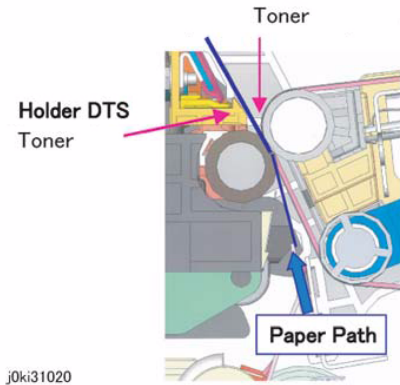
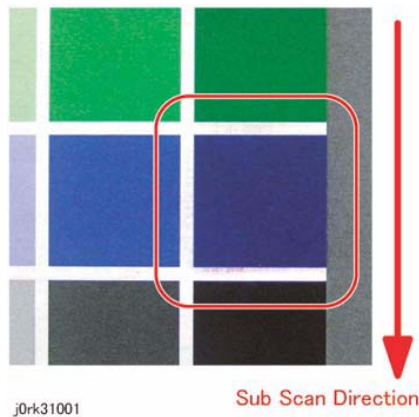
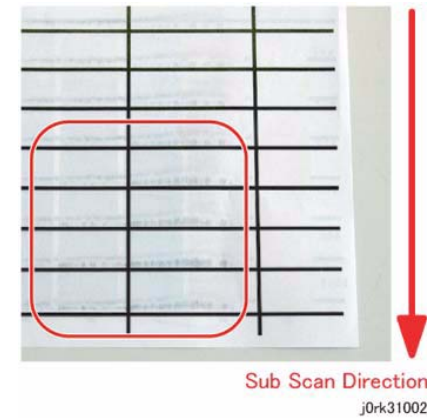
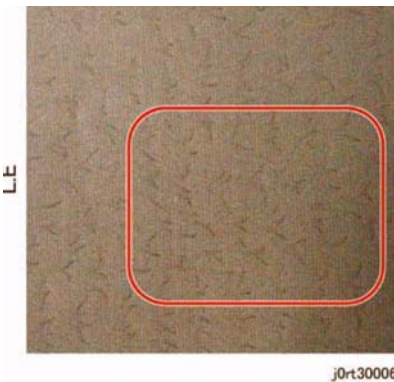

Figure 1 Heat Haze/Mock-Heat Haze
Figure 2 Heat Haze
Figure 3 Mock-Heat Haze
Figure 4 Mock-Heat Haze (Halftone Image)
- Heat haze occurs at the place where paper is stripped from the IBT Belt. Spatters of toner in small clouds are seen around the Solid Patch. (Figure 1 and Figure 2)
- Mock-Heat Haze occurs when the paper rubs against the Holder DTS (Chute at the Transfer Exit) and is charged, thereby causing toner to scatter to the lead edge/trail edge of the solid area. Part of the spatters may form streaks. (Figure 1 and Figure 3)
- Also, in Mock Heat Haze (Halftone Image), paper becomes strongly electrically charged at the minus side, and positive corona discharge occurs between the grounded Holder DTS and the paper, causing toner to scatter, and branch-like (pulsation-like) patterns can be seen along the electrical discharge portion. (Figure 1, Figure 4)